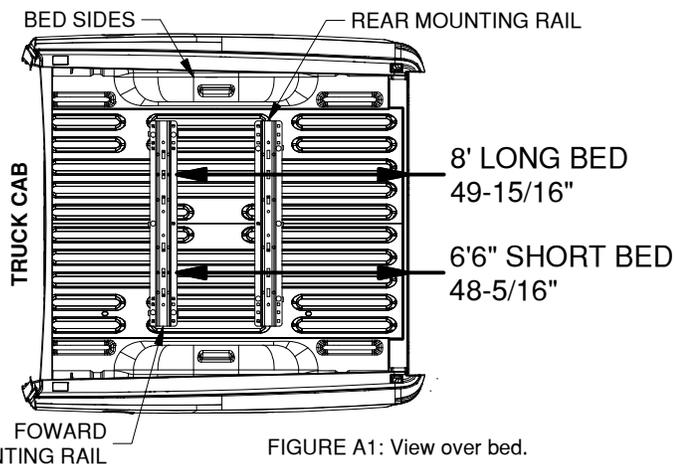

FIGURE A1: View over bed.
1. **Layout the forward mounting rail.** Place a mounting rail onto the bed of the truck. Hook a tape measure over the rear edge of the bed (not on any part of the tailgate), measure the location for the mounting rail as shown in Figure A1. Next, center the mounting rail in the bed by measuring the distance on either side from the edge of the rail to the sides of the bed. The rail will be centered when both measurements on either side of the rail are the same.